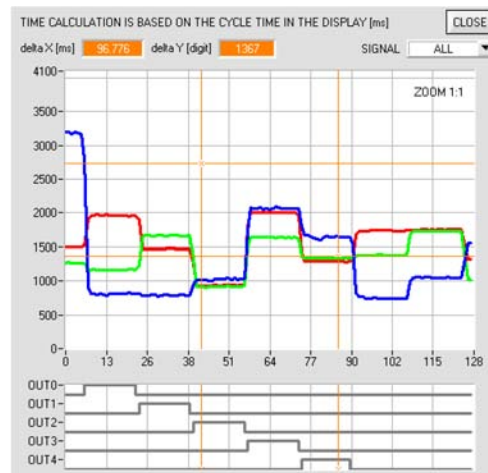

Fig. 62 Details from the SCOPE tab
- Specify SIGNAL to display individual curves, see Fig. 62.